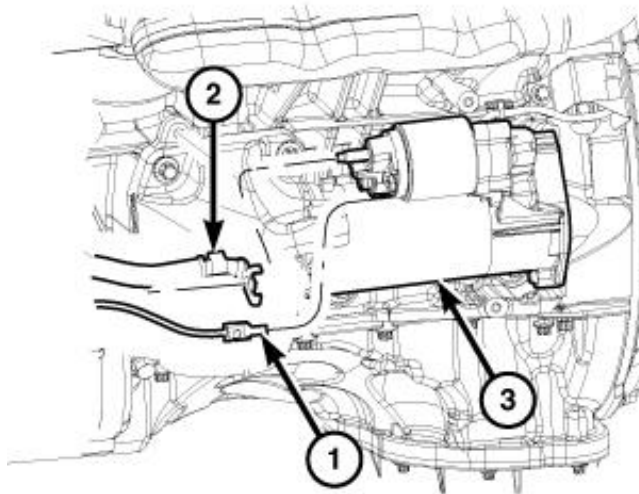

Figure 35 – Starter Connections
73. Remove the starter motor B+ connection (2) (Figure 35).
74. Disconnect the solenoid wire harness connector (1) (Figure 35).